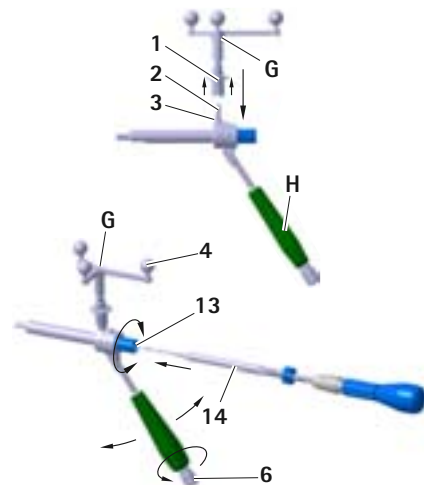

Fig. 8 Mounting the Aesculap star unit on the S⁴C guide sleeve for smooth-shank screws.
- To ensure the camera has an unrestricted view of the reflective marker spheres, unscrew knob 6 on the S⁴C handle of the S⁴C guide sleeve H and turn the Aesculap star unit G to the desired position, see Fig. 8.